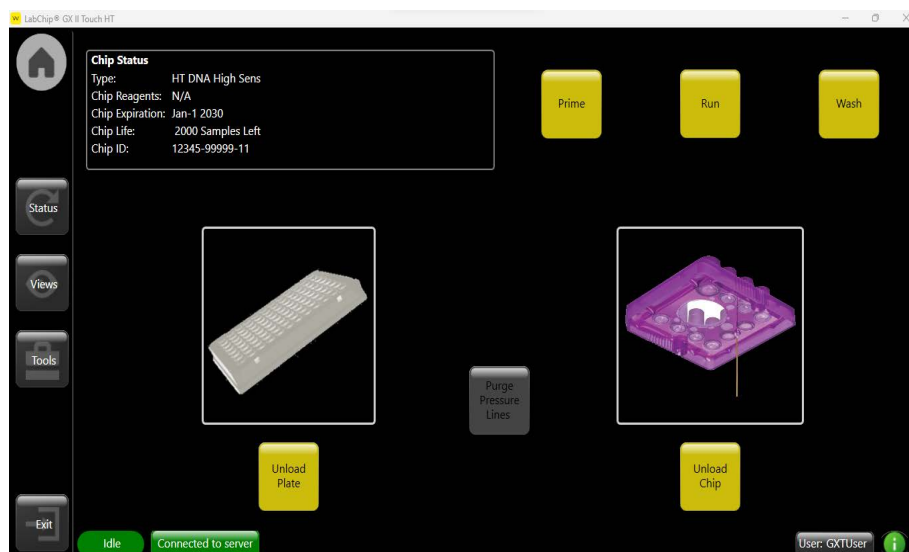

Figure 6. Home screen.
- 7 Touch the *Load Plate* button on the *Home* screen (Figure 6) to retract the sample plate and send the sipper to the Buffer Tube.